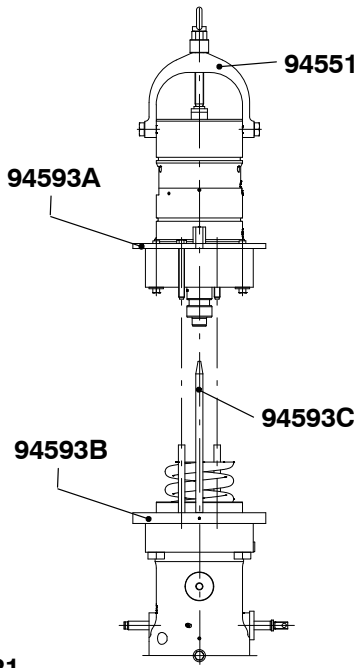

Fig. 21 019.234/10
- 1) Attach the ring (94593A, Fig. 21) to the bottom housing (2).
- 2) Attach the two part ring (94593B) to the top housing (3). Make sure that the guide rods (94593C) align with the holes in the ring (94593A).